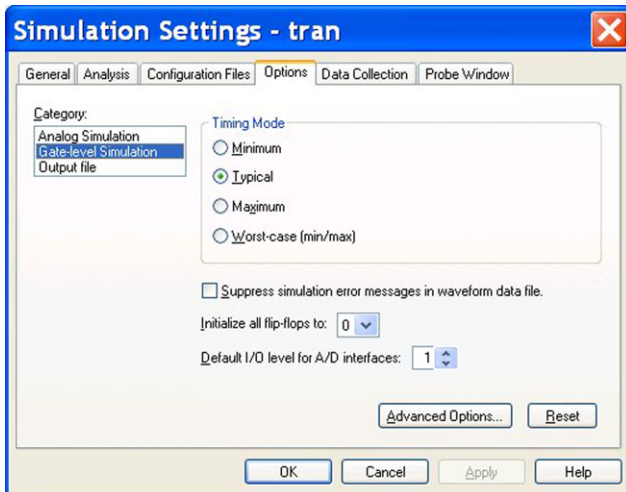

FIGURE 19.4
2. Set up a transient analysis with a run to time of 5 μ s. Select the Options tab and select Category > Gate-level Simulation and set Initialize all flip-flops to 0 (Figure 19.4). Close the simulation profile.